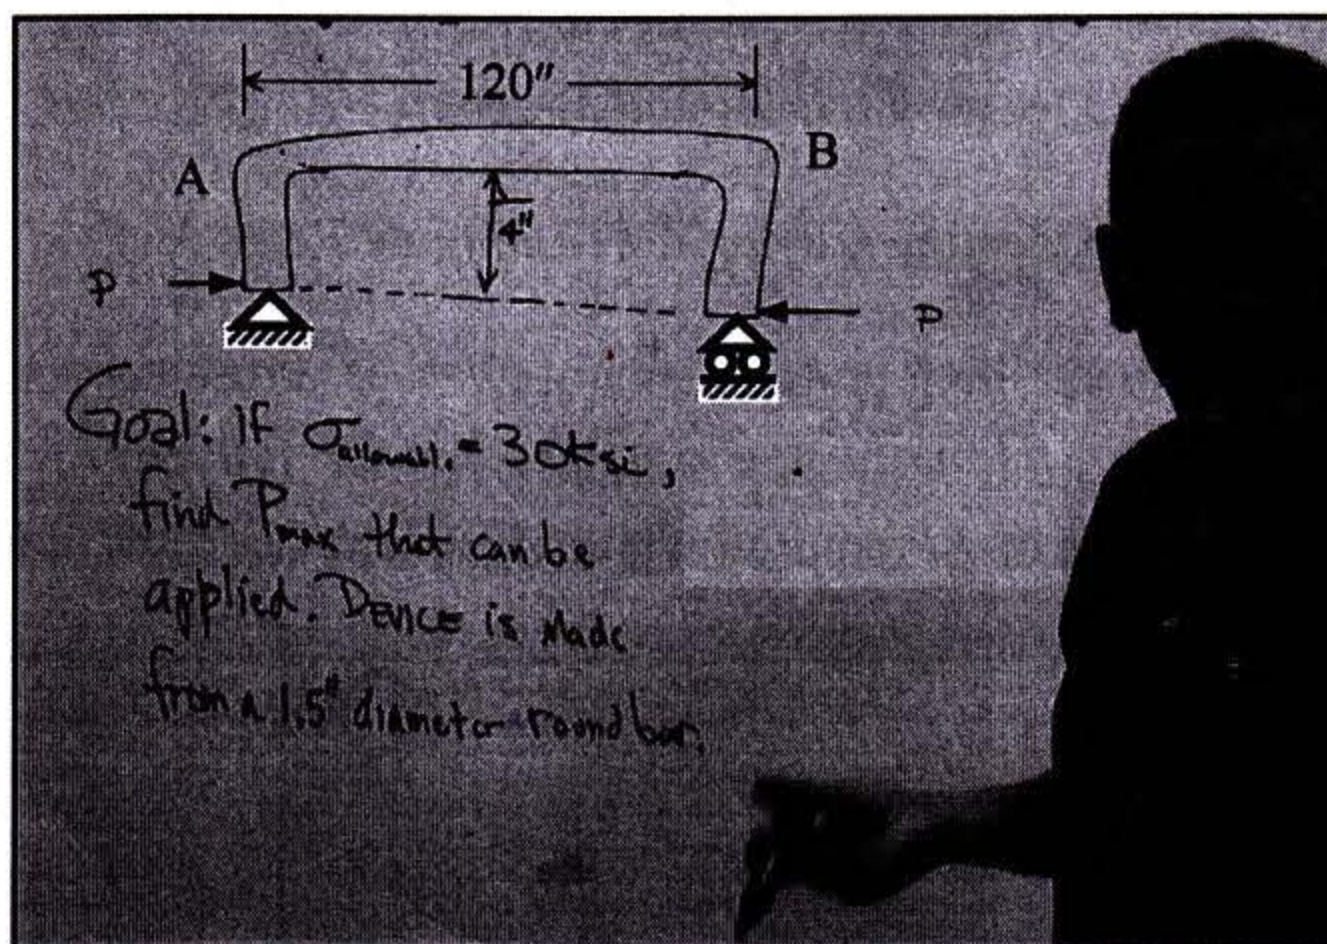

Fig. 3
4. Fig. 3 shows a professor (in Texas Tech, USA) sketching on white-board to calculate the maximum force P_{max} that can be applied on the steel frame drawn, including a 120"-long round bar AB of 1.5"-dia.